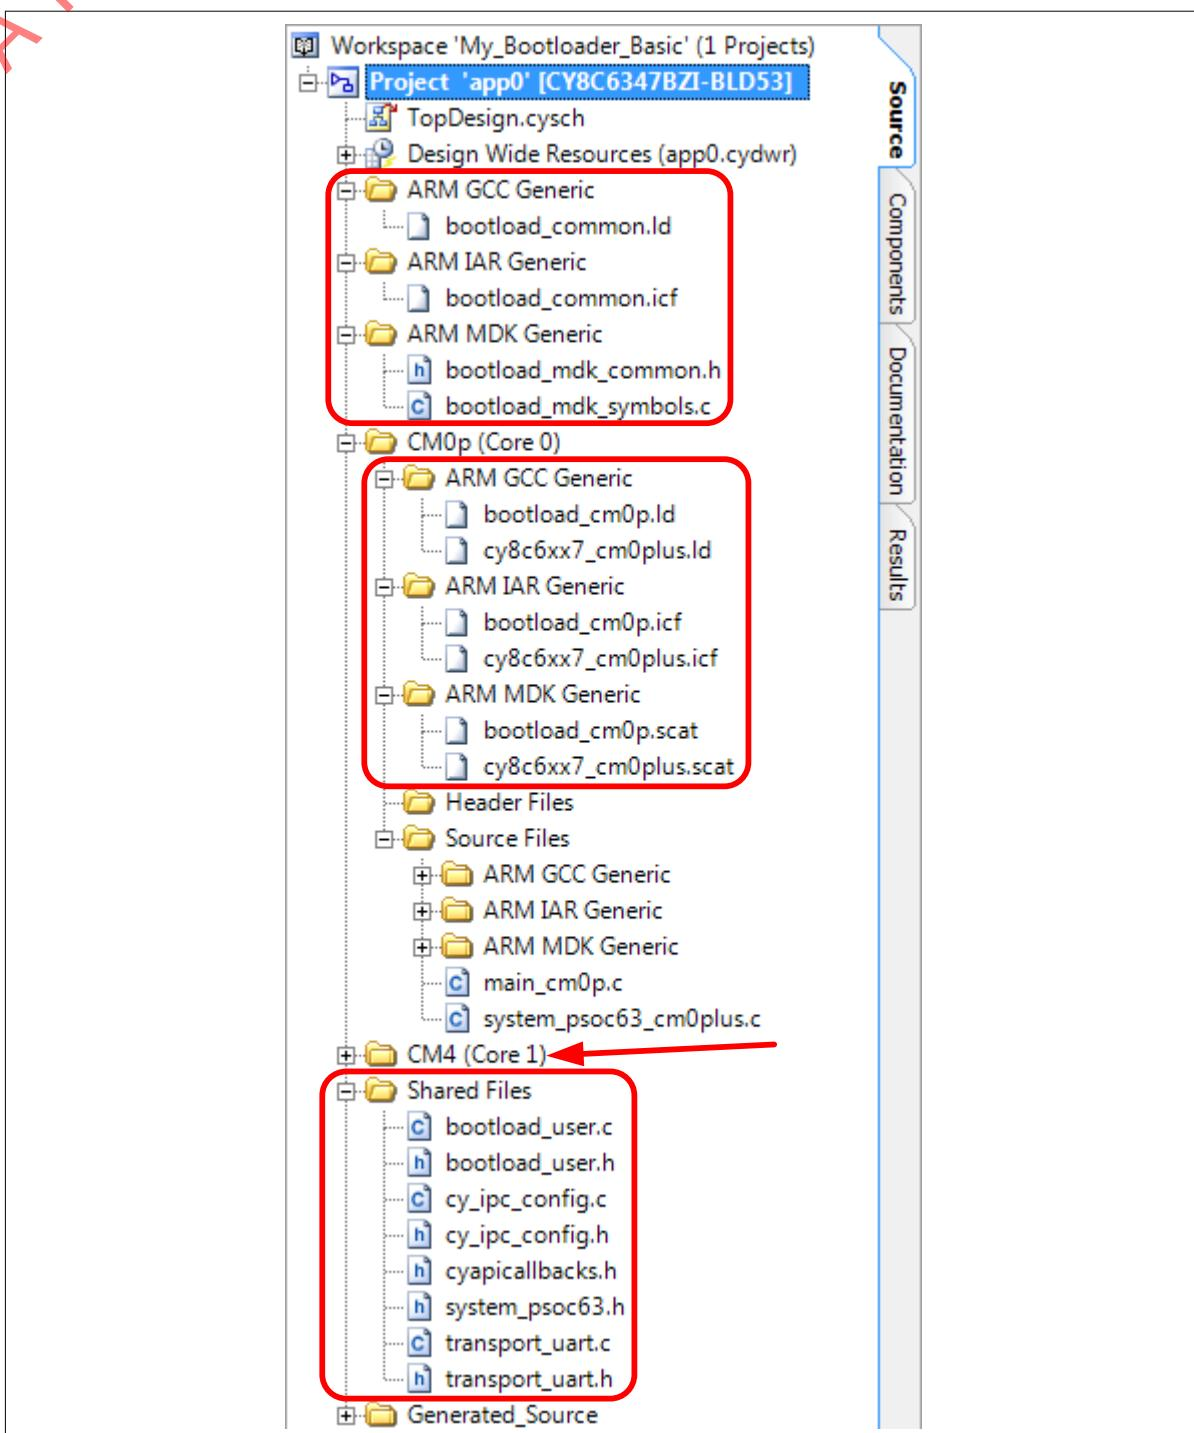

Figure 574 Add SDK files to a PSoC™ Creator project
3. Generate the project files. Click the project in the Workspace Explorer window and select **Build > Generate Application**. The files are added to the project, as Figure 574 shows.
Note: Figure 574 shows bootloader files added to the CM0p folder. Similar files are also added to the CM4 folder but are not shown